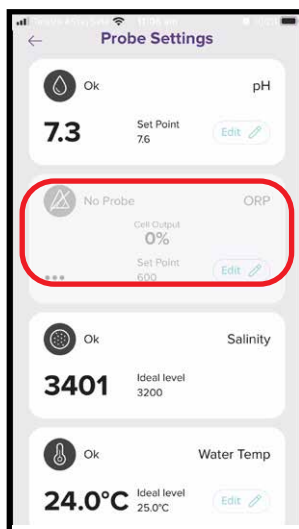

Figure 8.55
- Once you're back in the probe setting menu, where the ORP reading was previously shown, it will now read “no probe” (refer figure 8.55).